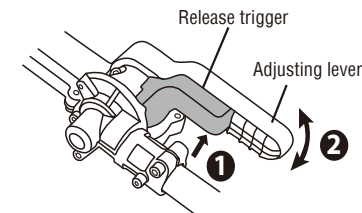

Fig.5A
1. Press the release trigger (Fig.5A, 1) down and rotate the adjusting lever (Fig.5A, 2) to adjust the blade to the desired cutting position as required.